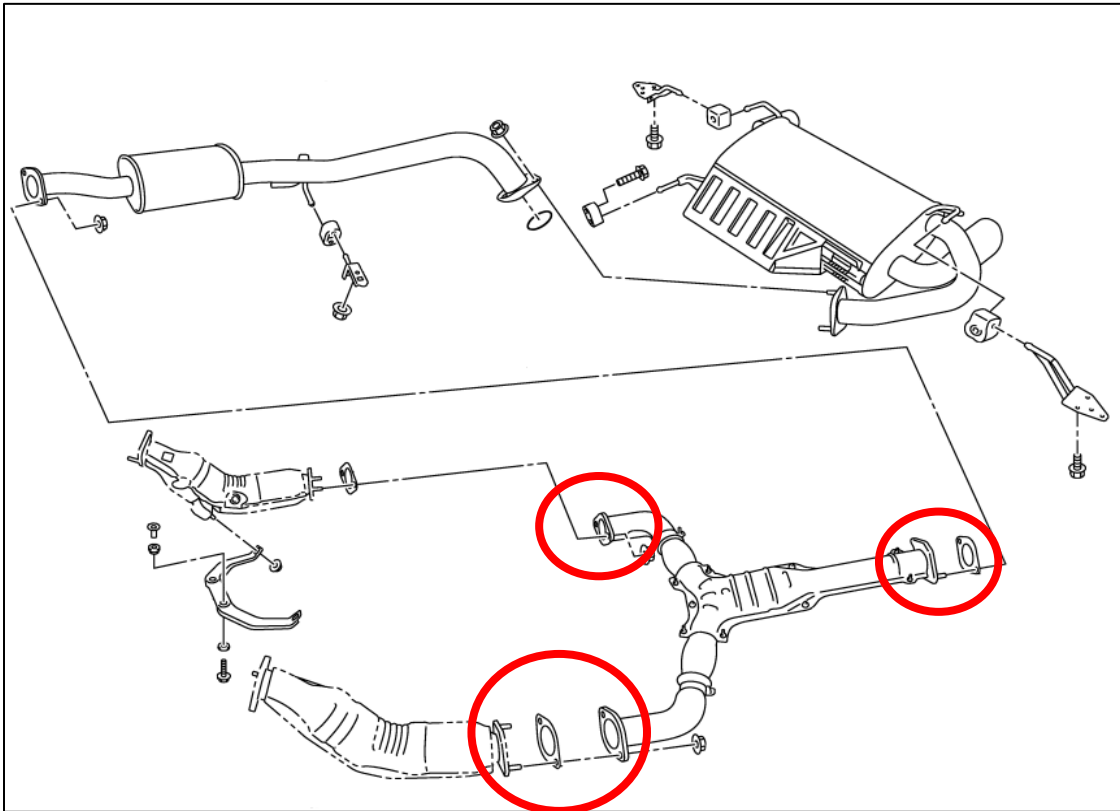

Figure 1
4. Disconnect and remove the Y-Pipe from the vehicle. *Figure 1.*